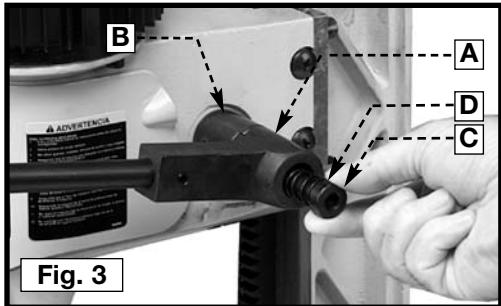

Fig. 3
1. Attach the hub of the handle assembly (A) Fig. 3 to the end of the pinion shaft (B) and fasten the handle to the pinion shaft using the special screw (C) and spring (D).